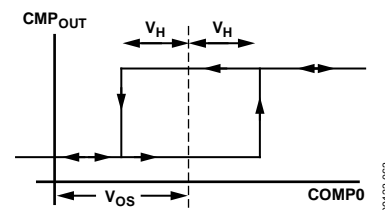

Figure 44. Comparator Hysteresis Transfer Function
Figure 44 shows how the input offset voltage and hysteresis terms are defined. Input offset voltage (VOS) is the difference between the center of the hysteresis range and the ground level. This can either be positive or negative. The hysteresis voltage (VH) is ½ the width of the hysteresis range.